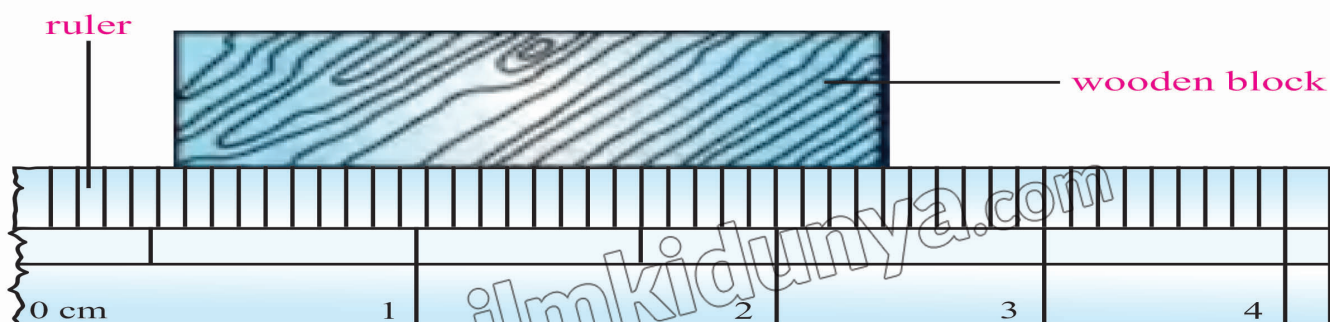

Figure 2.11 Method of taking Reading from meter rule to avoid zero error
The meter rule is a tool commonly used for measuring lengths in laboratories, such as the length of an object or the distance between two points. It has a total length of one meter, which is equivalent to 100 centimeters. Each centimeter on the rule is further divided into 10 smaller units known as millimeters (mm). Consequently, the smallest unit of measurement achievable with a meter rule is one millimeter, which constitutes its least count as discussed in previous topic. A 12cm meter rule is shown in figure 2.11. In measuring length of the object from meter ruler, following errors may occur.
1. To accurately measure an length of object, align it along a ruler, not starting from the zero mark, but from a point where both ends of the object can be read directly. This method, as illustrated in the figure 2.11, helps avoid systematic errors like zero error by subtracting the two readings. Remember, an instrument's zero mark itself may not be error-free.